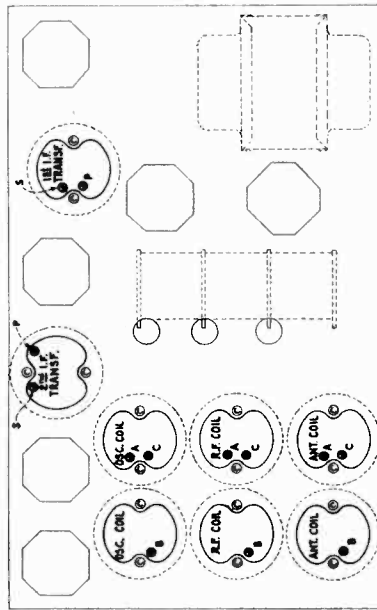

Figure 6—Location of Line-up Capacitors
Figure 6 shows the location of the trimmers for each band. Care must be exercised to neatly adjust the trimmers in the band under test.
- (c) Refer to Figure 6. Adjust each trimmer of the I. F. transformers until a maximum output is obtained. Go over the adjustments a second time.
The 220-volt power transformer furnished with some instruments includes caps for operating on 110-volt lines. Figure 6 shows the schematic circuit of the transformer and the proper voltage to be applied to the various taps. The caps are located on the power transformer assembly and are accessible without removing the chassis from the cabinet.